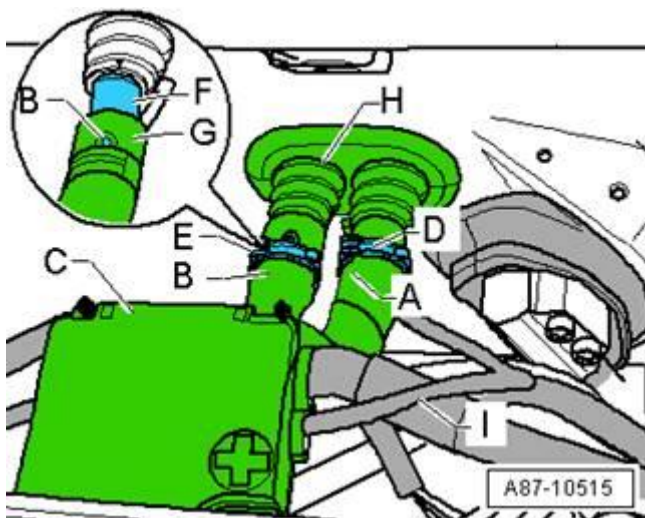

Figure 7. Heater core connections.
7. Flush the heat exchanger(s) with water in the **opposite flow direction**. Do not exceed 2 bar of water pressure (Figure 7).